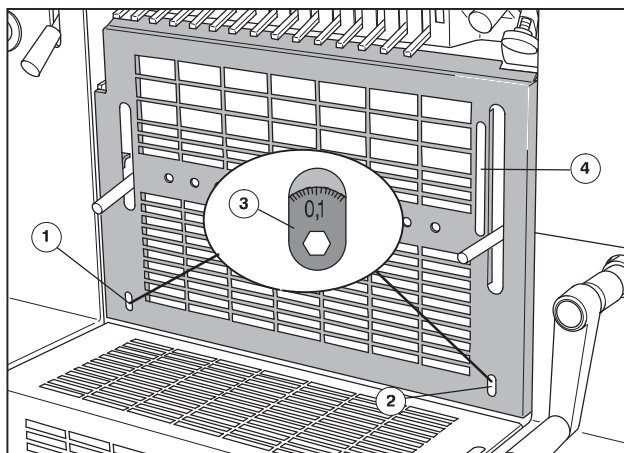

Fig. 48 Printing pressure adjustment
1. **Preset the paper thickness to be processed** (e.g. 0.1 mm) using the pressure adjusting screw on D.S. (Fig. 48/1) and O.S. (Fig. 48/2) .
2. Insert the operator tool through the corresponding oblong hole in the guard (Fig. 48/4) and set the printing pressure adjustment in accordance with the scale (here 0.1 mm, Fig. 48/3).